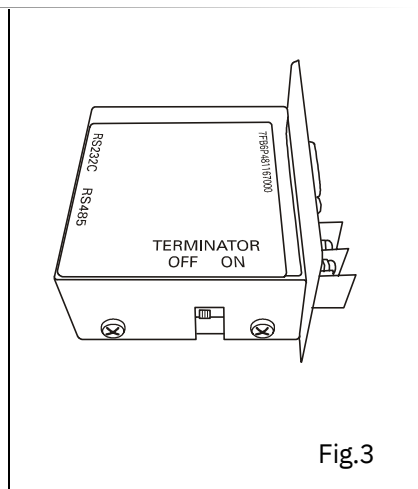

Fig.3
4. Set the recording paper according to the mark of day and time. (Fig. 3)
6. Set up the cartridge and settle in position. Fig. 3
3. Refer to the instruction manual attached to the interface board for the setup of the TERMINATOR switch of the interface board (MTR-480). (Fig. 3)